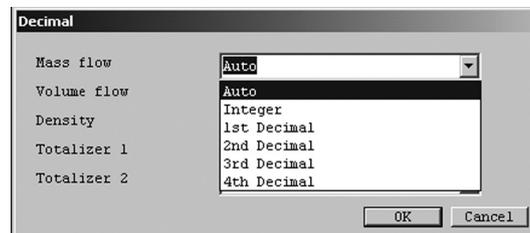

Fig.78
- ③ Click the triangle on the right side of each item as shown in Fig. 78, and select the decimal points to set from the drop-down lists.